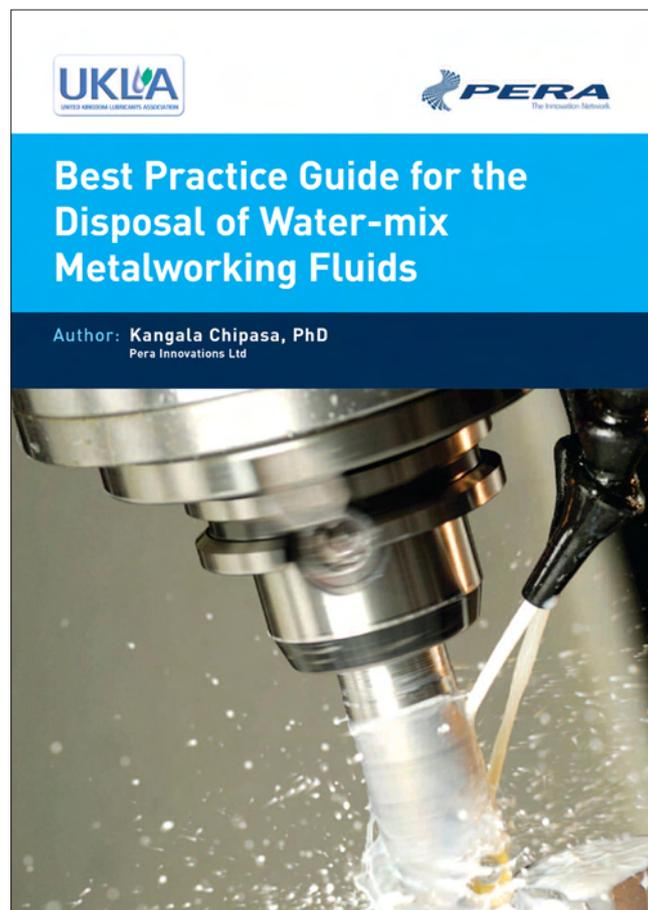

Figure 20: The UKLA best practice guide for the disposal of water mix-metal working fluids
- Used MWF needs to be disposed safely so follow appropriate guidance from the MWF supplier and industry best practice advice (Figure 20). For more information regarding the disposal of MWF see web-links at the end of this section.